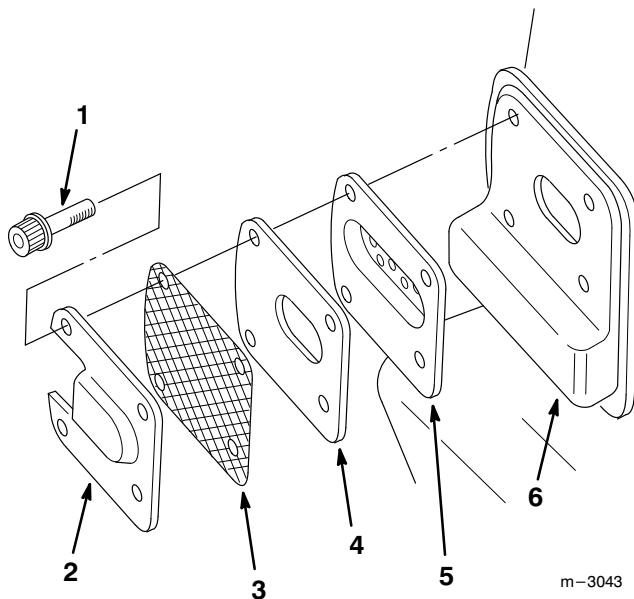

Figure 34
2. Remove the four socket head screws holding the spark arrester assembly to the muffler (Fig. 34).
4. Reinstall the plate, gasket, screen and tail onto the muffler, then reinstall and tighten the four socket head screws (Fig. 34).